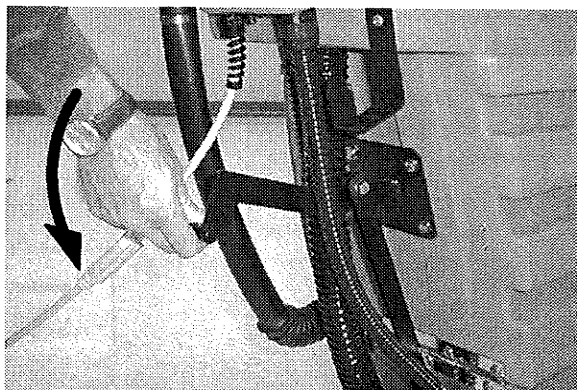

FIG. 3
2. Lower brush/vacuum head lift lever (Figure 3).